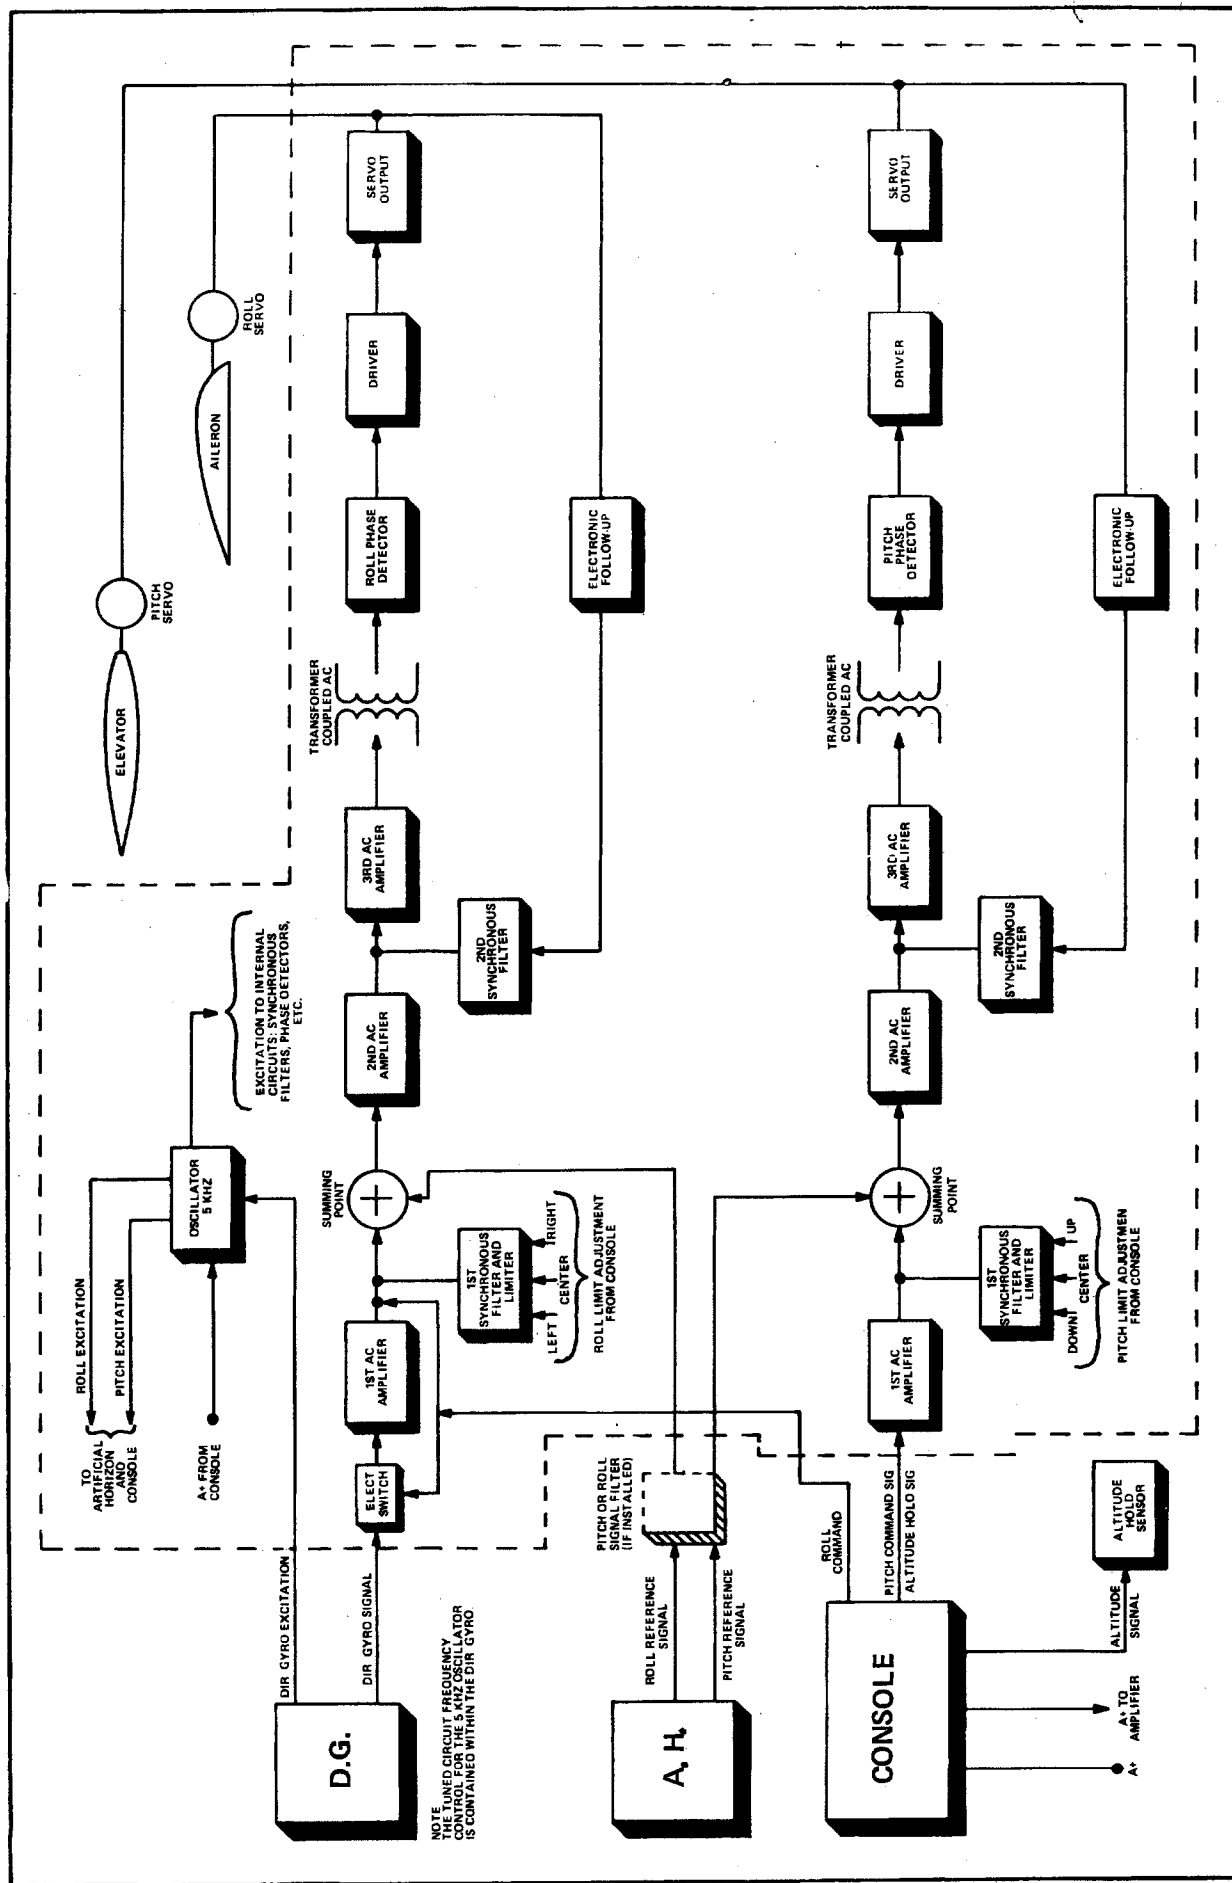

FIGURE 1-9
In the block diagram, (Fig. 1-9) it can be seen that the Century III is an expanded Century II system. The Century III uses the same basic circuit as the Century II in the roll section and duplicates it to form the pitch section.
With A+ applied to the system, the 5 KHz oscillator within the amplifier is activated and supplies the system with a 5 KHz square wave excitation signal. This signal is virtually the "backbone" of the Century III autopilot. As can be seen in Fig. 1-9, the excitation signal is routed to the D.G. (which is a part of the oscillator since it contains the tuned circuit for the oscillator), the artificial horizon, the console and the various synchronous filters and phase detectors within the amplifier.
- 1.2.3 Signal Processing - The roll and pitch reference signals originating from the artificial horizon provide the autopilot with aircraft attitude information. In fact, they tell the autopilot what the aircraft is doing. These attitude signals are fed to summing points within the amplifier (See Fig. 1-9). When the 1D395 amplifier is used, the attitude signals may be first passed through a roll or pitch signal filter. These filters are actually rate circuits that tell the amplifier "how fast" an attitude change is occurring; therefore, they provide rate information to the autopilot. Note that a roll and pitch filter will never be used together with a 1D395 amplifier. (Design of the signal filters is such that only one may be plugged in line at a time.) (In the 1D515 and 1D515-1 amplifiers, both the roll and pitch signal filters are built-in.